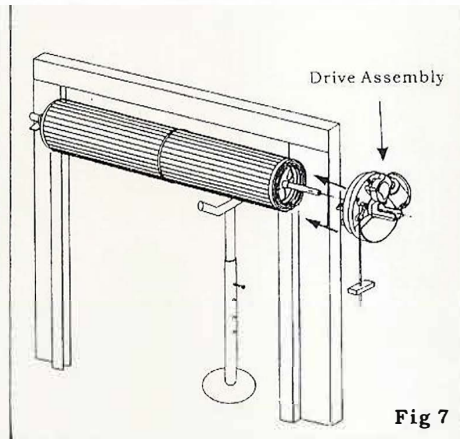

Fig 7
- 4.3 Support the right hand end of the door with a suitable prop, e.g. Step ladder and soft padding to protect door surface. Fig 7